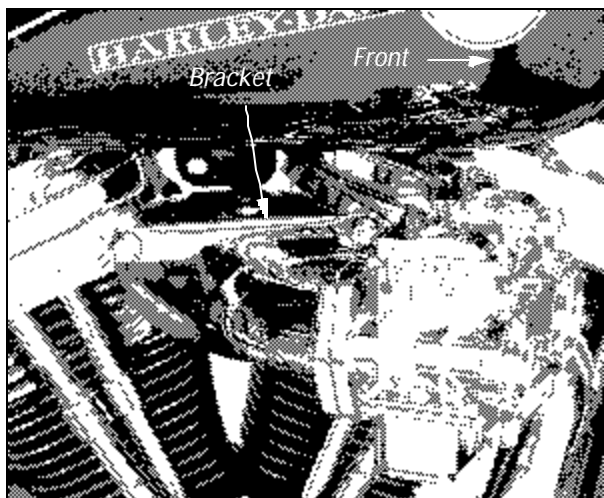

Figure 1 - Intake Manifold Bracket
3. Install manifold bracket to front cylinder head (See Figure 1).
- A) (Big Twin Evos 1984-1989) Install Manifold bracket to front cylinder using the (2) 5/16-18 X 1-1/2" chrome plated button head cap screws, (2) 5/16-1/2" reducers and (2) spacers. (see photo). DO NOT TIGHTEN OR CONNECT TO REAR CYLINDER AT THIS TIME.
- B) (Big Twin Evos 1990-1996) Install Manifold bracket to front cylinder using the (2) 1/2"-13 X 1-1/2" chrome plated banjo bolts, (6) fiber washers and the front breather banjo marked with a "F". Point banjo toward rear of motorcycle. DO NOT TIGHTEN OR CONNECT TO REAR CYLINDER AT THIS TIME.